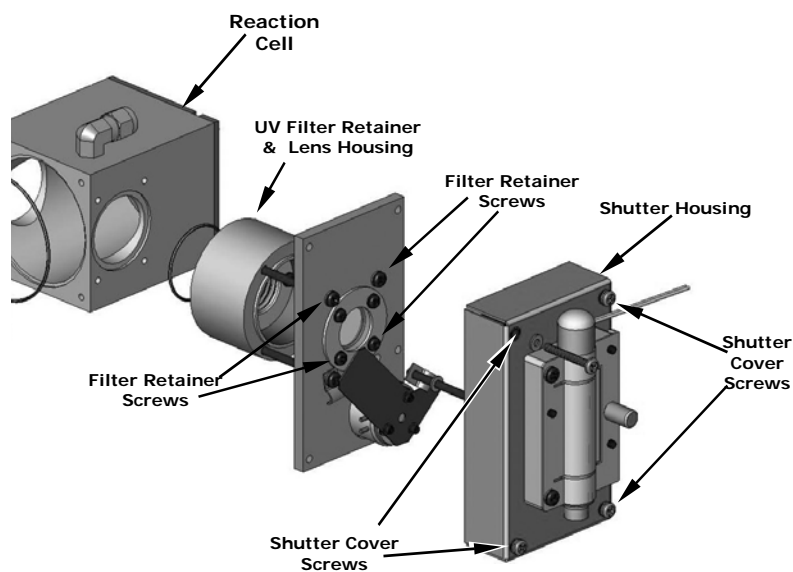

Figure 11-13: Disassembling the Shutter Assembly
3. Remove 4 screws from the shutter cover (see Figure 11-13) and remove the cover.